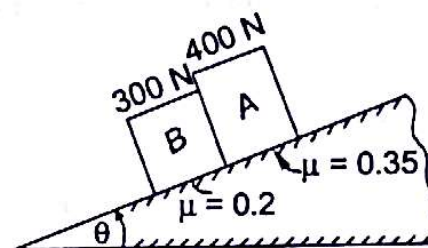

Fig. 6.22
- 6.4 Two blocks A and B of weights 400 N and 300 N respectively rest on an inclined plane. The coefficient of friction between block A and plane is 0.35 and that between block B and plane is 0.2. The angle of inclination of the plane is increased gradually. At what angle θ , blocks A or B or both start sliding down the plane. Refer to Fig. 6.22.